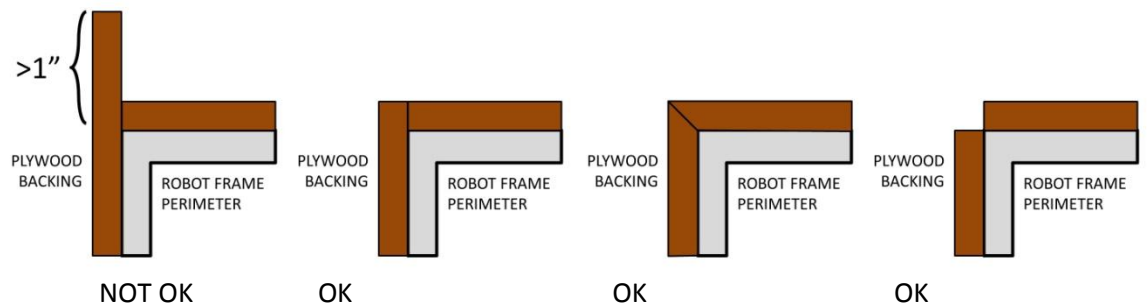

Figure 4-4
[R28] Bumpers must be constructed as follows (see Figure 4-4):
- hard Bumper parts (e.g. plywood, fasteners, etc) may not extend more than 1 in. beyond the end of the Frame Perimeter(see Figure 4-4).